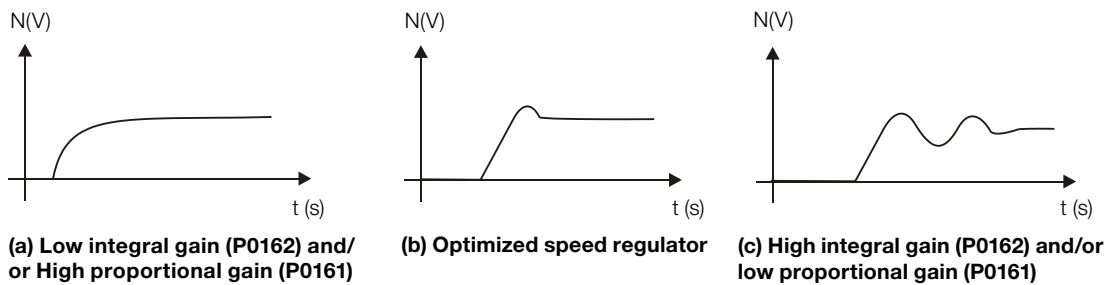

Figure 11.4: (a) to (c) Speed regulators response types
- 6. Verify among the options of the Figure 11.4 on page 11-14, which waveform best represents the observed signal.
- 7. Adjust P0161 and P0162 according to the response type presented in the Figure 11.4 on page 11-14.